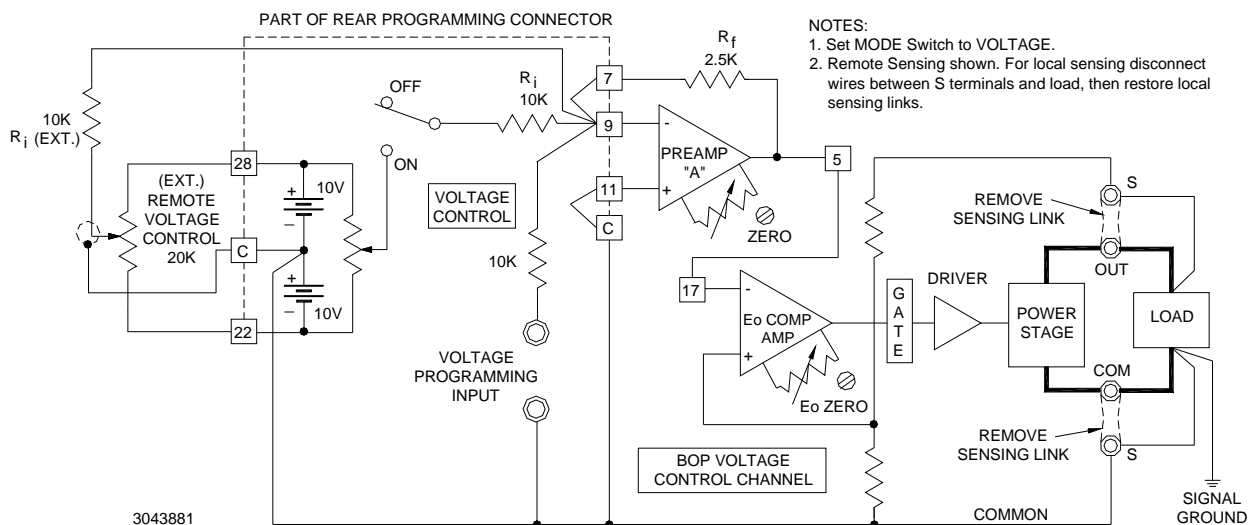

FIGURE 3-5. REMOTE POTENTIOMETER CONTROL OF D-C OUTPUT VOLTAGE
When configured as shown in Figure 3-5, Preamp “A” with the built-in feedback and input resistors has a gain of one and the fixed gain of all BOP models is designed so that a d-c input signal of zero to (±)10 volts will control the BOP output through its specified range. When the front panel VOLTAGE CONTROL switch (4, Figure for 3/4 rack, Figure 2-1 for full rack) is set to OFF, operation is similar to local control described in PAR. 3.3.1, except that an external potentiometer is substituted for the front panel VOLTAGE control (3).